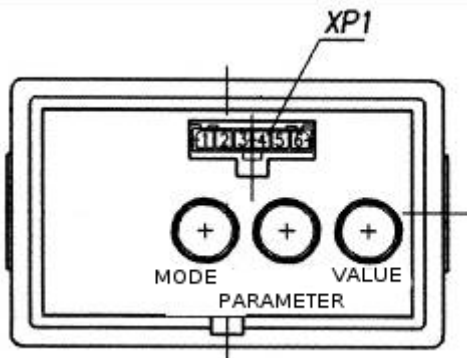

Figure 1.7 – Integrated display programming console
The programming console 14 (Figure 1.1) allows for manually programming the indicator with the “Parameter” and “Value” buttons (see Figure 1.7), changing the display mode of parameters shown on the LCD.
1.1 When the “Parameter” button is pressed for the first time (see Figure 1.7), the LCD switches to the mode of viewing the programmed parameter and its numerical value. When the button is pressed repeatedly, the parameters are alternated cyclically.
1.2 When the “Value” button is pressed repeatedly (see Figure 1.7), the numerical value of the set programmed parameter is changed.